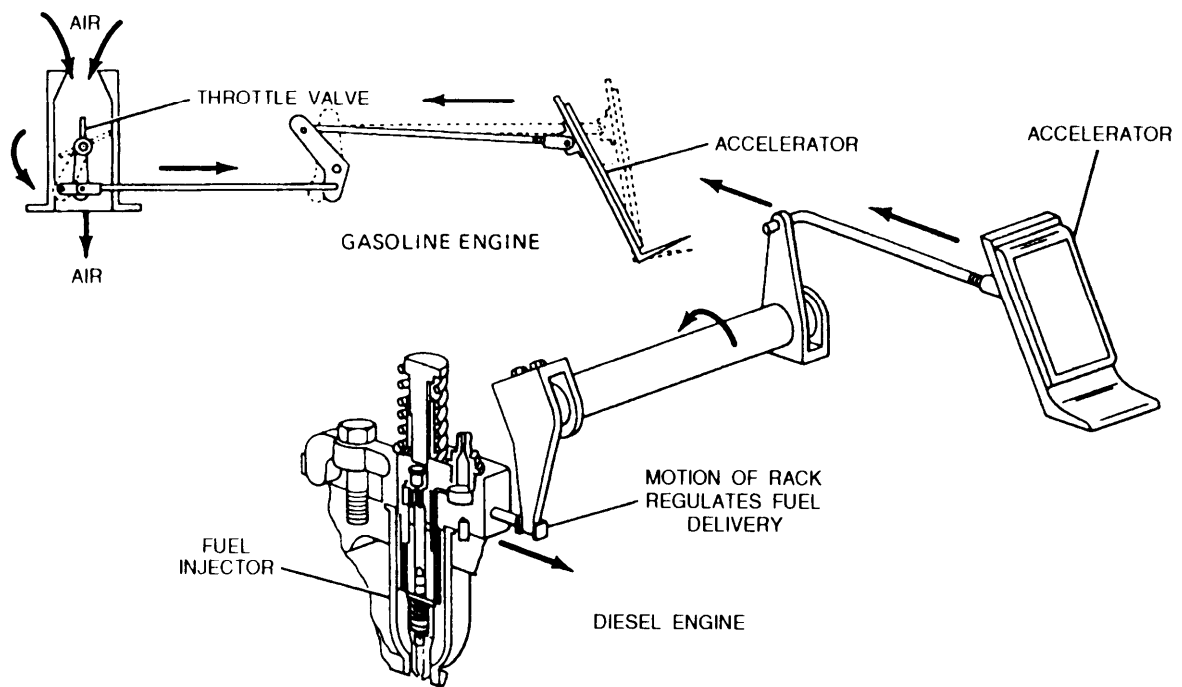

Figure 1-9.—Diesel and gasoline engines regulation of power.
4. The engine speed and the power output of a diesel engine are controlled by the quantity of fuel admitted to the combustion chamber. The amount of air is constant. On the gasoline engine, the speed and power output is regulated by limiting the air and fuel mixture entering the engine (fig. 1-9).